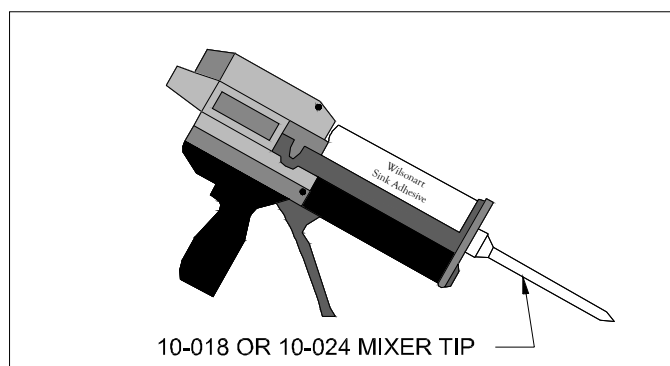

Figure 4D
- Insure proper mixture of adhesive and catalyst with the following procedures. (FIG. 4D)